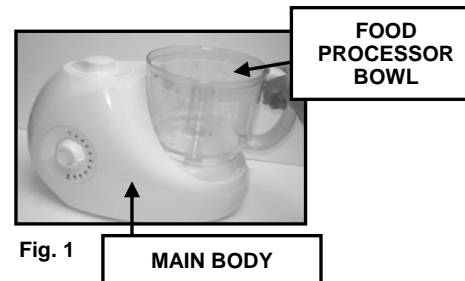
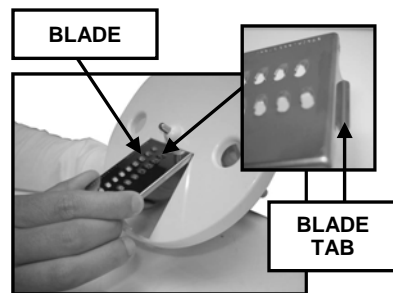

Fig. 1
Fig. 6
- Place the food processor bowl securely on the main body. (Fig. 1)
- Select the desired blade. There are five (5) different blades to choose from:
- To attach the blade to the blade holder, take the blade holder in one hand and insert the blade tab first into the opening. (Fig. 6)